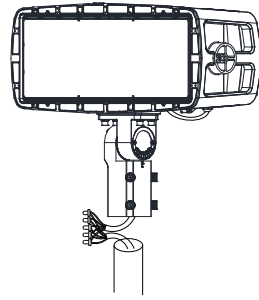

Figure 8
- 1: Loosen the four bolts on AM bracket, connect the wires correctly, and pull the wires into the poles. (Figure 8)